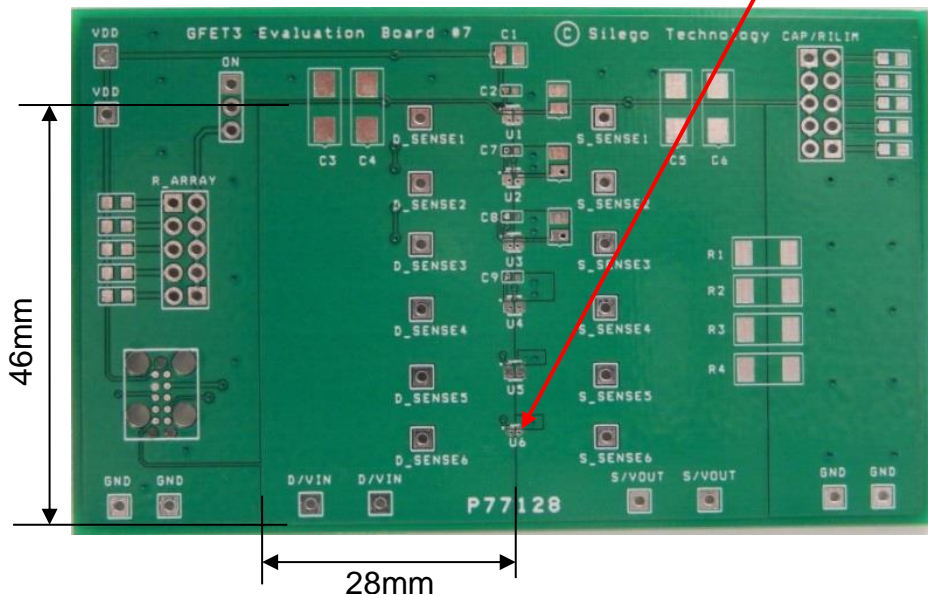

Figure 3. SLG59M1571V Evaluation Test Board
2.2. The D/VIN and S/VOUT pins carry significant current. Please note how the D/VIN and S/VOUT pads are placed directly on the power planes in Figure 3, which minimizes the RDS(ON) associated with long, narrow traces. The D/VIN, S/VOUT and GND pins dissipate most of the heat generated during high-load current condition. The layout shown in Figure 3 is illustrating a proper solution for heat to transfer as efficiently as possible out of the device.